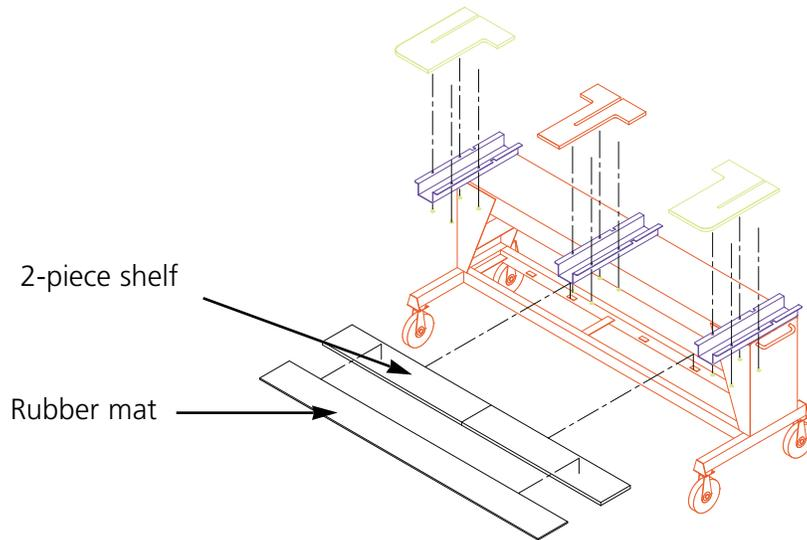
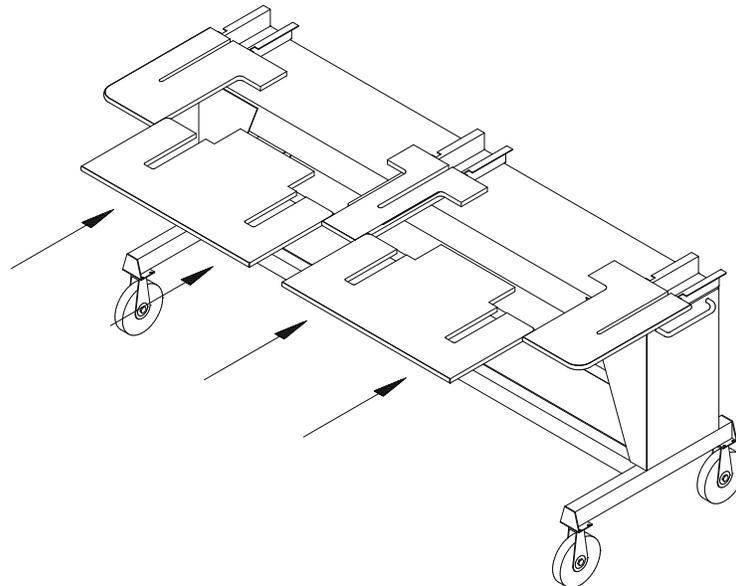

Figure 1-5
Figure 1-6
There are five table top sections (see Figure 1-5). The two ends and the center section bolt to the table as shown in Figure 1-5. The remaining two sections slide into place as shown in Figure 1-6. This design provides an easy way to remove the table tops around the embroidery heads to attach the cap frame driver or perform maintenance.
2. There is a 2-section shelf and a covering mat that comes with the table top assembly (see Figure 1-5). Place the shelf pieces on top of the brackets located in the base of the table and lay the mat on top of the shelf pieces.
3. Slide the last two tops into place (see Figure 1-6). They fit on the guide rails of the end and center sections.